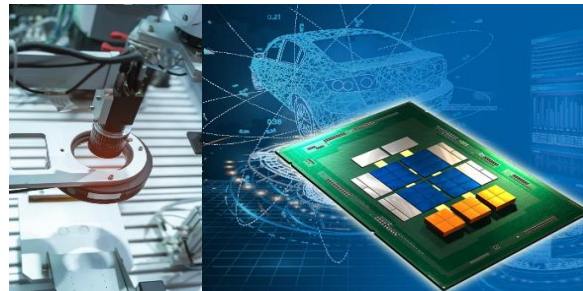

Fig. 1.13: Advanced Materials
1. Advanced Materials – The semiconductor industry has been reliant on silicon for decades, but there is a limit to how far you can etch, lithograph, and pattern a silicon material. As a result, innovation to increase the performance of integrated circuits is coming from new materials and architectures. (Figure 1.13) Start-ups and scaleups are developing silicon alternatives and other semiconductor materials or composites for high performance and efficiency.